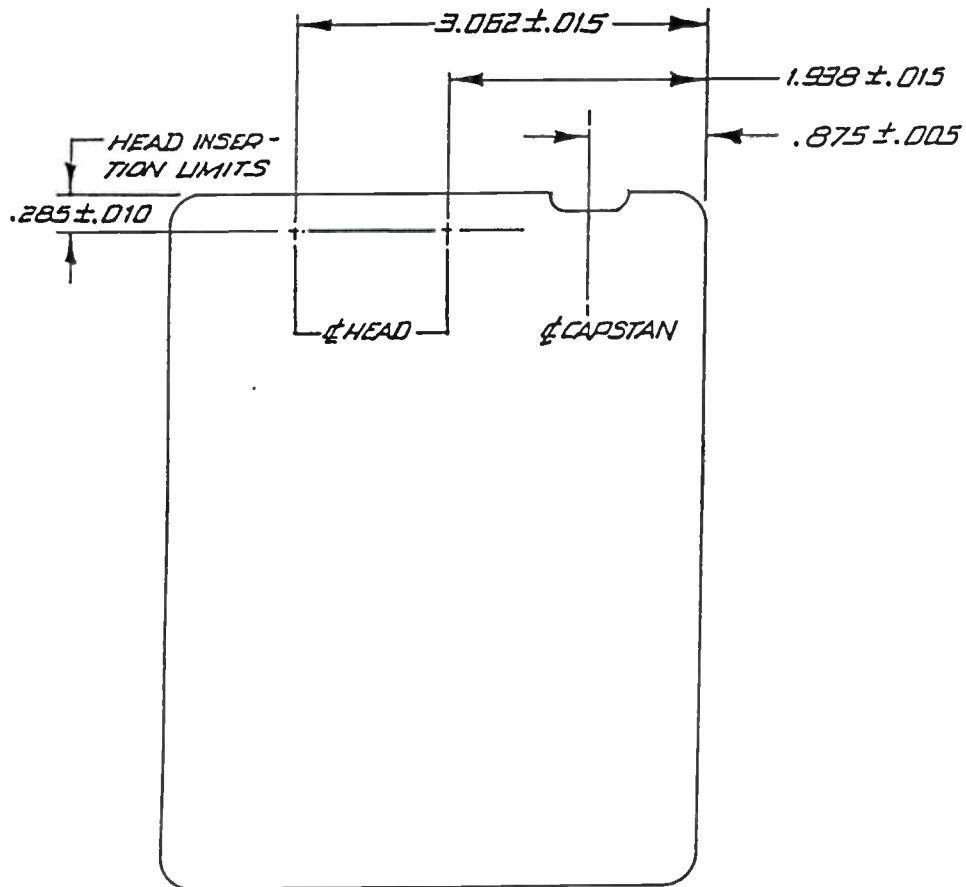

Figure 2
A. Refer to Figure 2 and scribe a cartridge as shown.